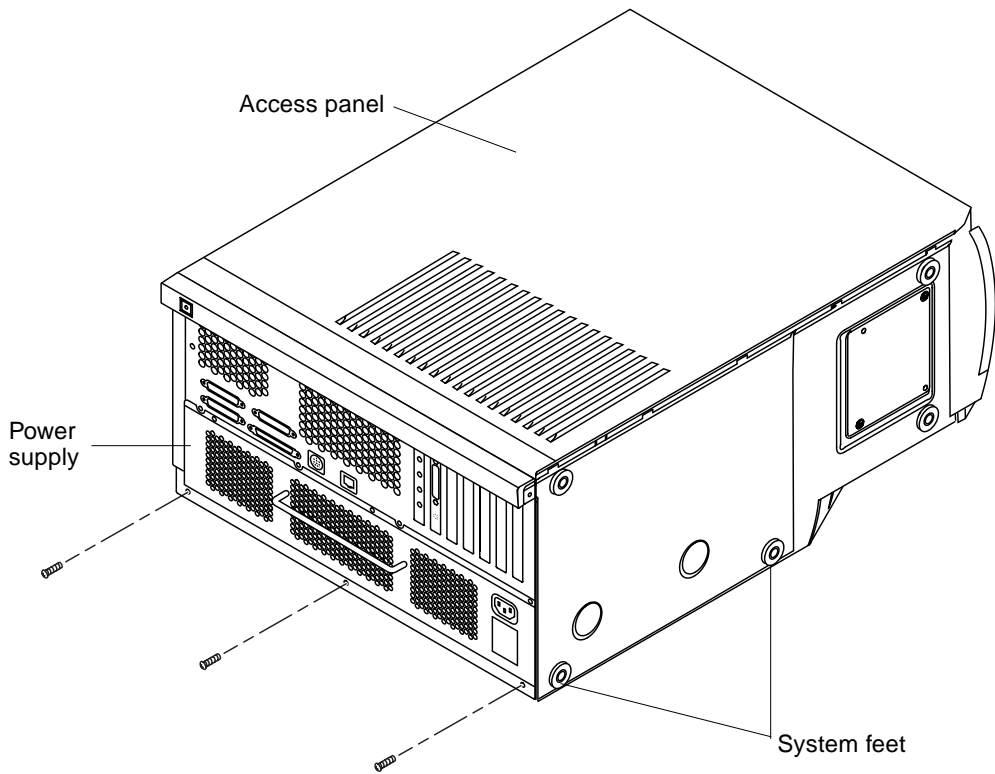

FIGURE 18 Removing the Power Supply Screws
3. Remove the three screws from the base of the power supply at the back of the system. Set the screws aside (FIGURE 18).